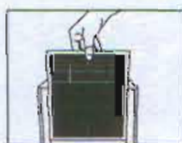

fig.4
2. Catch the filtration mesh handle and pull upwards. (shown as fig.4)